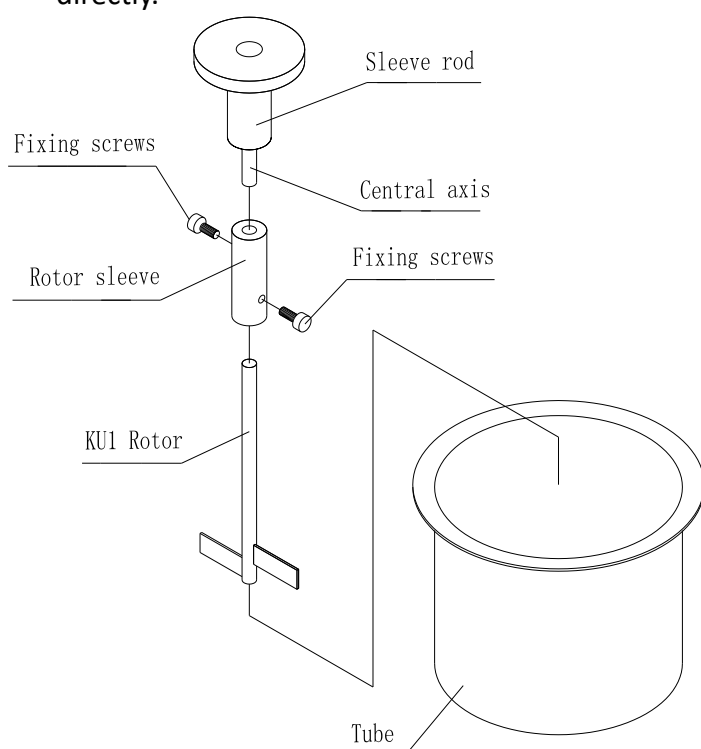

Fig. 11
(1) Take the rotor and rotor sleeve out from the packing box, and fix the rotor with the fixing screw. Notice: fix the screw to the oblate opening on the rotor bar, and fix the other end of the rotor sleeve to the central axis. Transfer a suitable amount of the tested sample into the material tube. See details in Fig. 11.